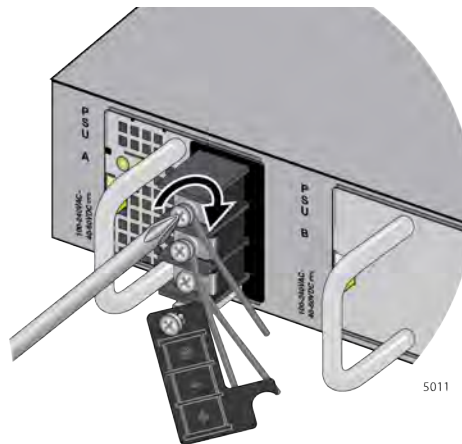

Figure 51. Tightening the Screw for the Negative (+)
6. Wind the power wire and tighten the screw. Refer to Figure 51.